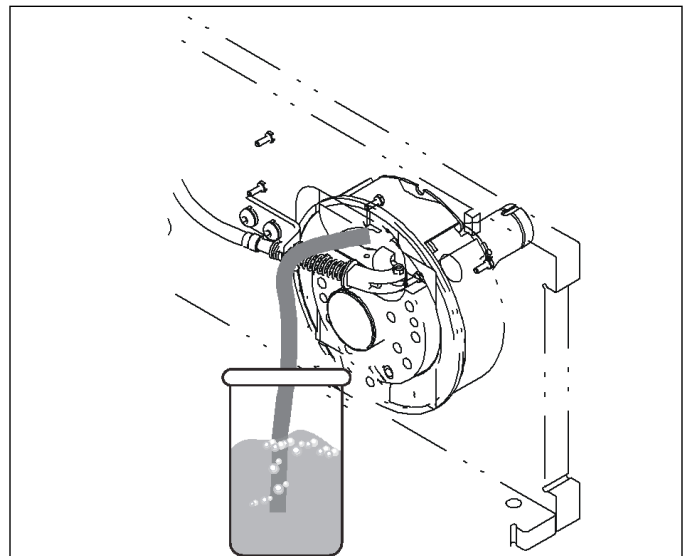

Figure 2-10 Bleeding Brakes
6. Fit a length of tubing over the bleed screw and immerse the other end in the container of new brake fluid. Check that the tubing fits tightly over the bleeder fitting. **See Figure 2-10.**